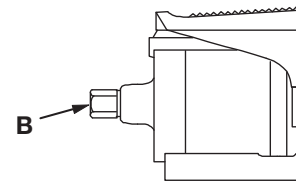

Figure 5
1. See Figure 5. Connect a 9 CFM [15 m3/h] (minimum) air supply source to the 1/4" [0,5 cm] NPTF pump air inlet swivel connector (B). Use only 1/4" [0,5 cm] hose or quick disconnect fittings. Larger, heavier fittings are not recommended. Use a high-grade pipe thread sealer to seal the connection.